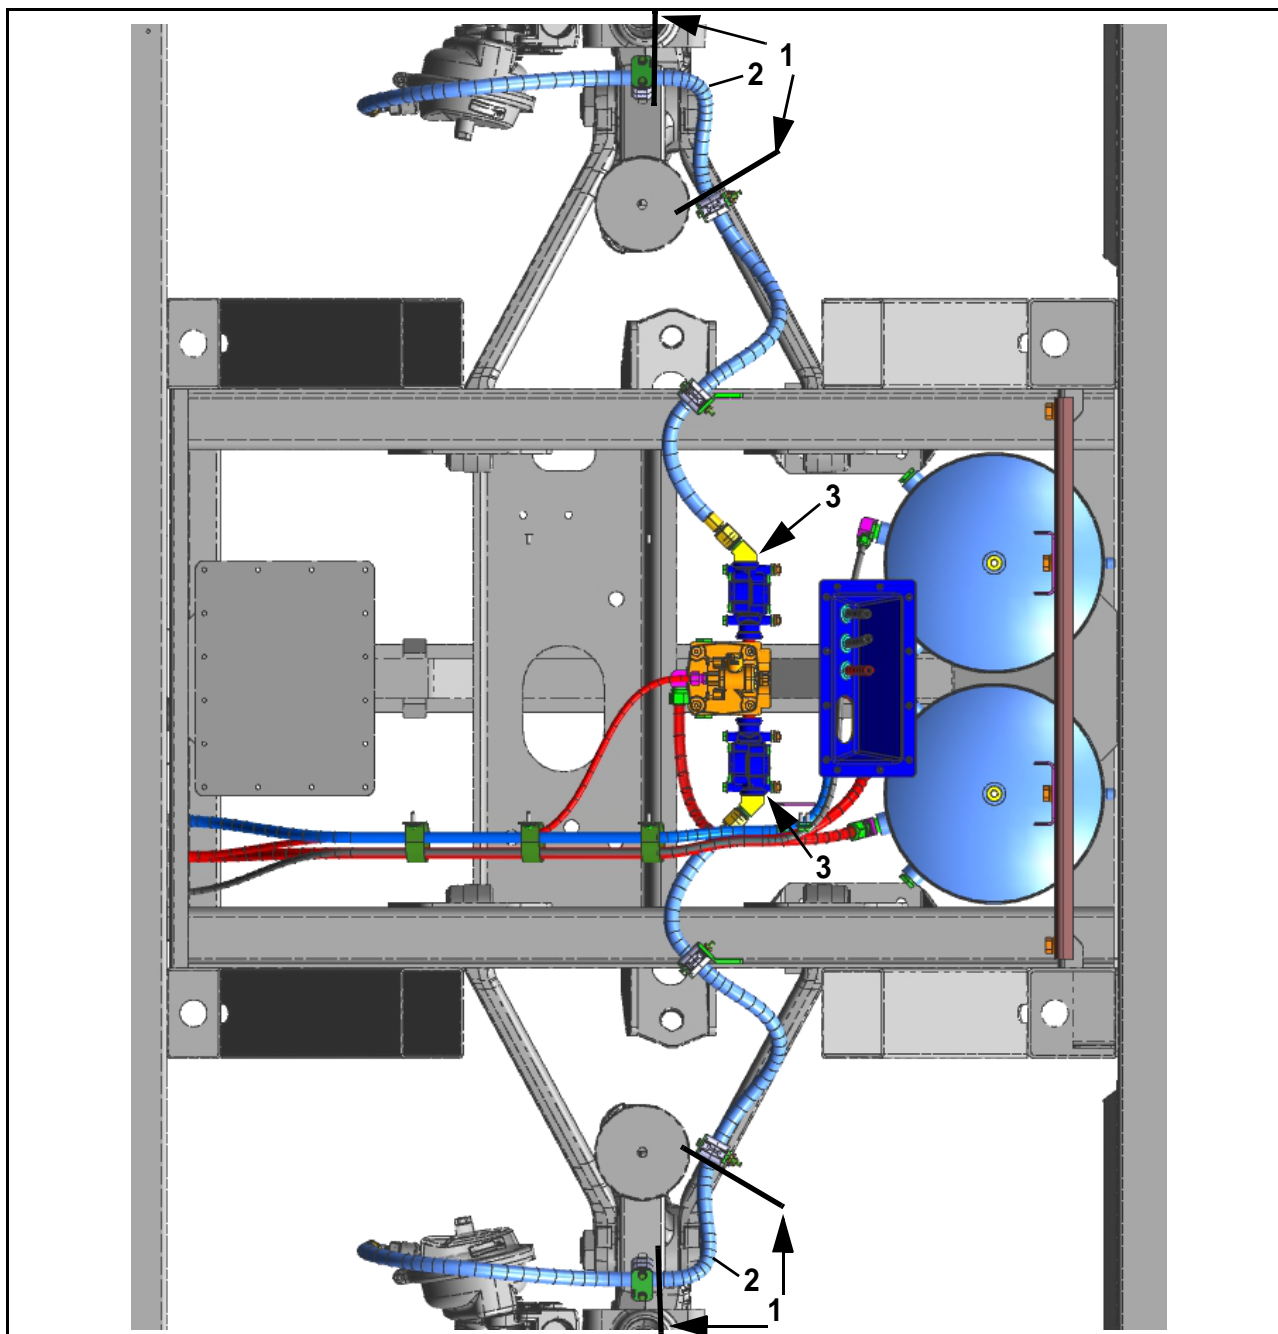

Figure 17.
44. Using a measuring tape, ensure that the front brake hose assembly routing length is the 8.00 to 8.25 inches of hose length from face to face of the clamps while maintaining a minimum bend radius of 2.25 inches as shown in Figure 17.
Item	Figure 17 Description
47. Route the front brake hose assembly to the next brake hose bracket. Tighten clamp to secure the front brake hose assembly in position (refer to Figure 17).
48. Orient and connect, using two (2) wrenches, the end of the brake hose assembly to the 45 degree fitting on the front brake module valve(refer to Figure 17). Torque to 56-60 ft-lbs.
51. Enter the coach cabin. With the air system full, apply and hold a service brake application. Have a second person spray a mixture of soapy water to the threads and swivel nut of the brake hoses bundle. Monitor for thirty (30) seconds for signs of a leak. If a leak is present, tighten and repeat Step.